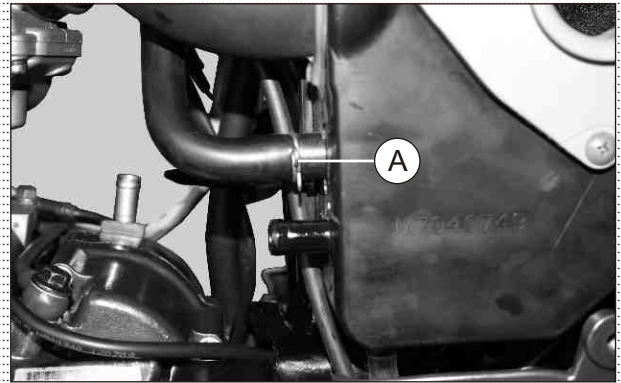

Fig. 3.30
- Dislocate hose clip (A) from the hose air inlet and pull out hose air inlet. (Fig. 3.30)